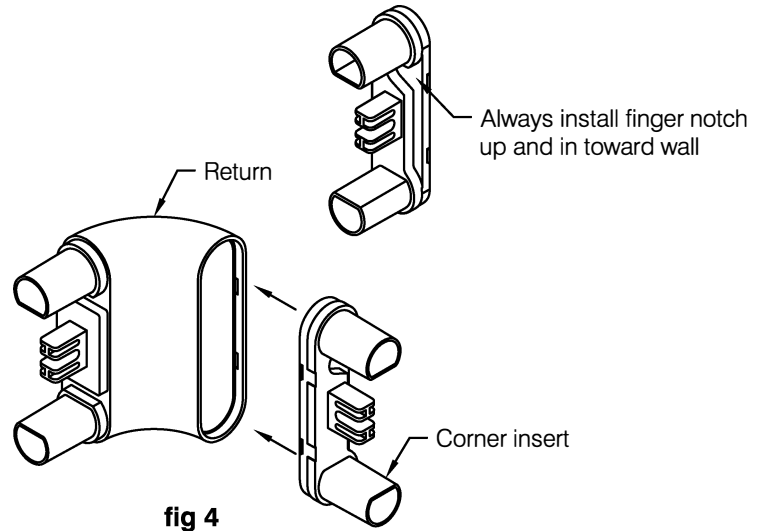

fig 4
- Step 5:** Assemble inside and outside corner accessories by snapping corner insert into the molded return, see **fig 4**. Always install the insert with finger notch up and in toward wall. It may be necessary to reverse the position of the molded return to accomplish the correct insert orientation.
Note: Symmetry of the molded return accessory allows for installation in the aluminum retainer in any orientation. The correct choice will allow for proper installation of the insert to form inside and outside corners with finger notch toward the wall as shown in **fig 4**.